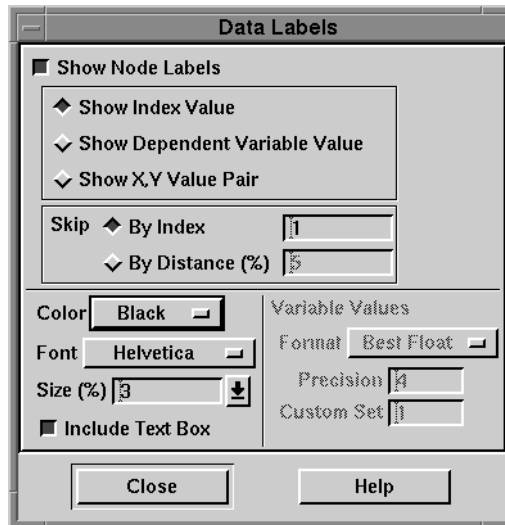

Figure 8-36. The Data Labels dialog.
1. From the Style menu, choose Data Labels. The Data Labels dialog appears, as shown in Figure 8-36.